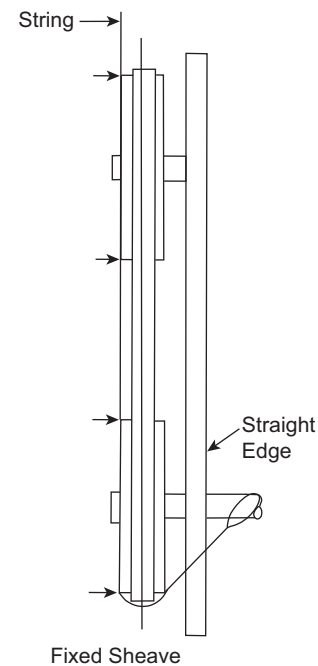

Fig. 73 — Sheave Alignment
1. To check the location of the fixed sheaves on the shafts, use a straightedge or a piece of string. If the sheaves are properly aligned, the string will touch them at the points indicated by the arrows in Fig.73. Rotate each sheave a half revolution to determine whether the sheave is wobbly or the drive shaft is bent. Correct any misalignment.